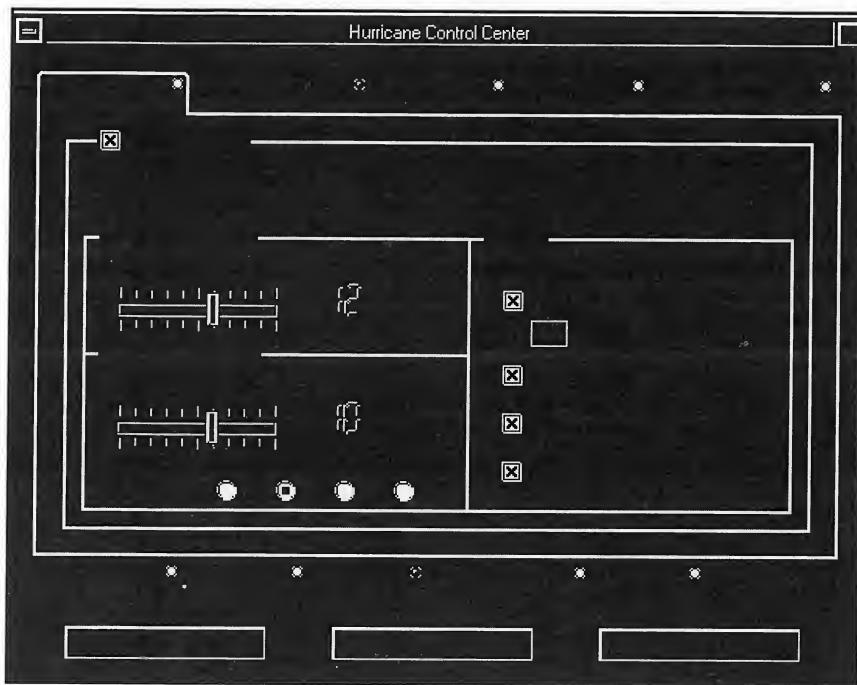

Fig. 4. Hurricane Control Center.
Figure 4 shows the *Hurricane* control center, which provides a central location for setting all of the controls and options for the various utilities (although these are already set when you first install the program). As you can see, all of *Hurricane*'s utilities are presented on a single screen in the Control Center. This screen contains "tabs" that reference each utility (along the top and bottom). All you have to do is click on a tab to display the utility's specific selection and activation controls.
Note in Fig. 4 that there's an "x" in the Heap Expander box. This means that the utility is installed. If you don't know what a "heap" is, the manual explains this technical term. Briefly, *Windows* consists of three components: the Kernel program that's responsible for the multitasking of *Windows* programs; the User program that's responsible for managing windows, buttons, controls and menus; and the GDI program that's responsible for drawing graphics on the screen or printer.
resources to *Windows*. The Heap Expander is configurable so that it can be set to activate only when your system becomes low on resources. You set this by controlling the GDI/User threshold options shown in Fig. 4.
If you don't understand *everything* I just detailed, then what you need is a programmable keyboard instead, like the Maxi Pro-II from Maxi Switch (Fig. 4). It has its own battery-powered memory that can be used to store up to 1,800 keystrokes that are played back by pressing a single key. Moreover, you can save keyboard macros to a disk, which makes it easy to switch between different keyboard layouts by simply downloading the saved routines.
**Fig. 4.** If you're looking for a way to create a customized keyboard interface, I suggest a programmable keyboard like Maxi Pro-II from Maxi Switch (tel.: 602-746-9378).